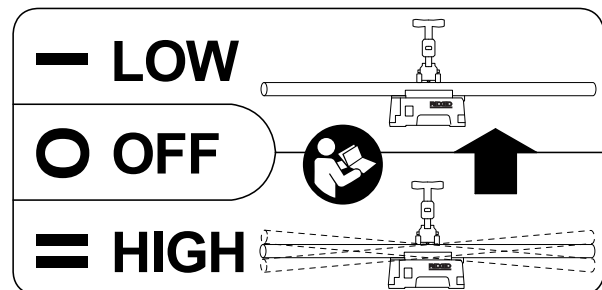

Figure 8 – Speed Label
- Position the foot switch as shown in Figure 8 to allow a proper operating position.
The Power Tubing Cutter has two operating speeds – LOW and HIGH, see Figure 8.